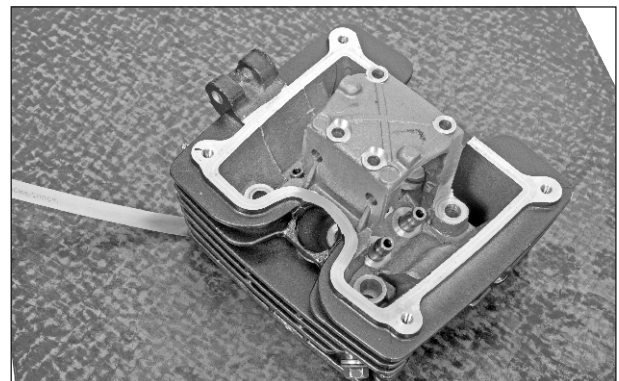

Fig. 3.59
- Using a feeler gauge, check for the distortion of surfaces of the cylinder head complete. If the reading exceeds the limit, replace the head complete cylinder with a new one. (Fig. 3.59)